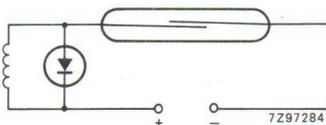

Fig. 2.
a) D.C. voltage: a diode parallel to the load or the reed switch, see Fig. 2.